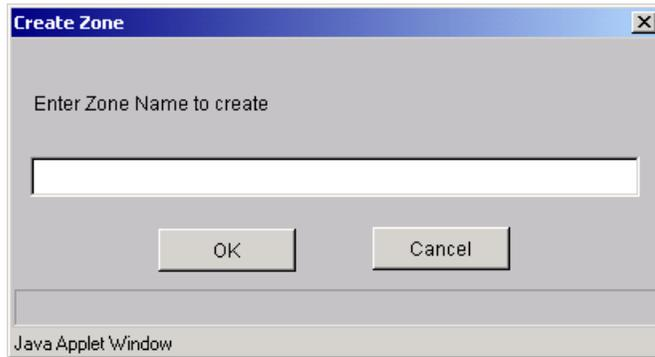

Figure 4-14 Create zone
2. Click **Create Zone**. A pop-up window appears in which you enter the zone name (see Figure 4-14):